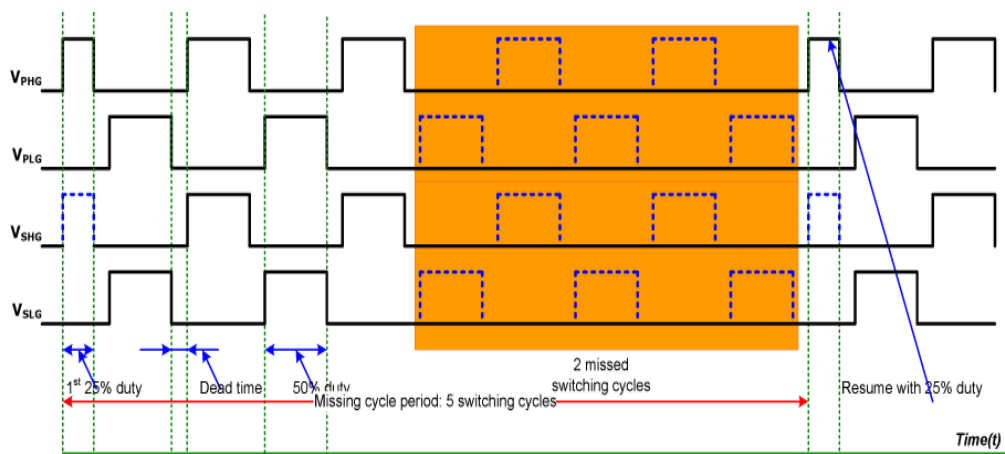

Figure 11 ICE2HS01G gate outputs during Missing Cycle
If the current sense voltage is lower than the preset reference level on V_{mc} pin for 20ms, IC enters into a Missing Cycle (MC) mode, where every two out of five switches are removed to reduce the average switching frequency. V_{ref} pin is the output of internal reference voltage, which is an accurate 5V voltage source, with up to 2 mA. A typical output gate drive waveforms in MC mode is shown in Figure 11.